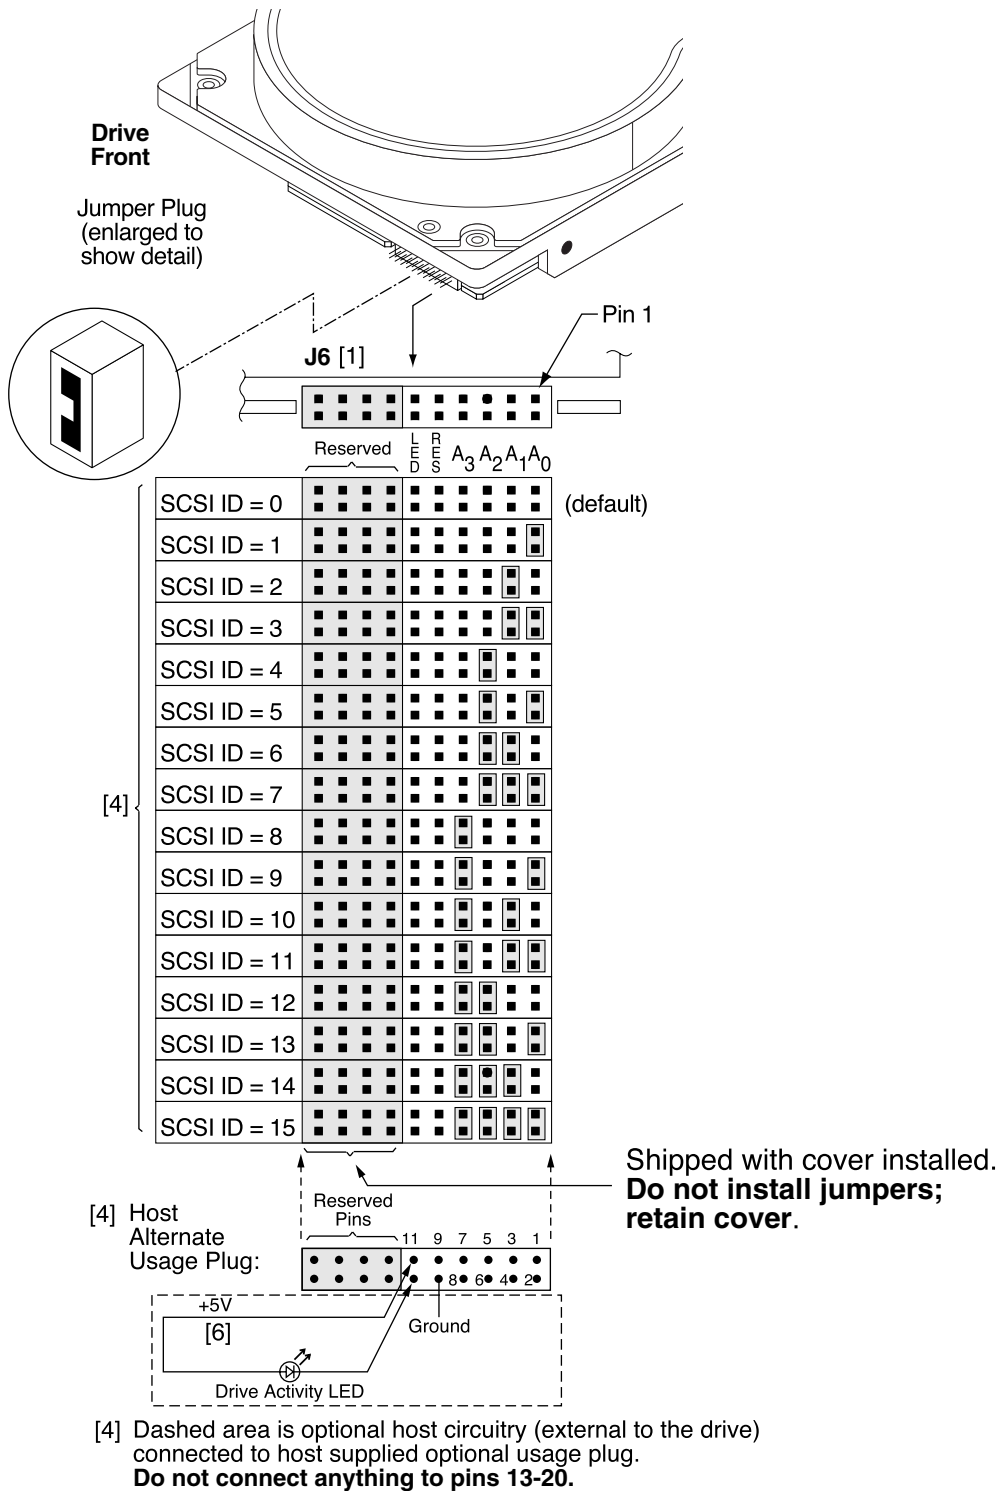
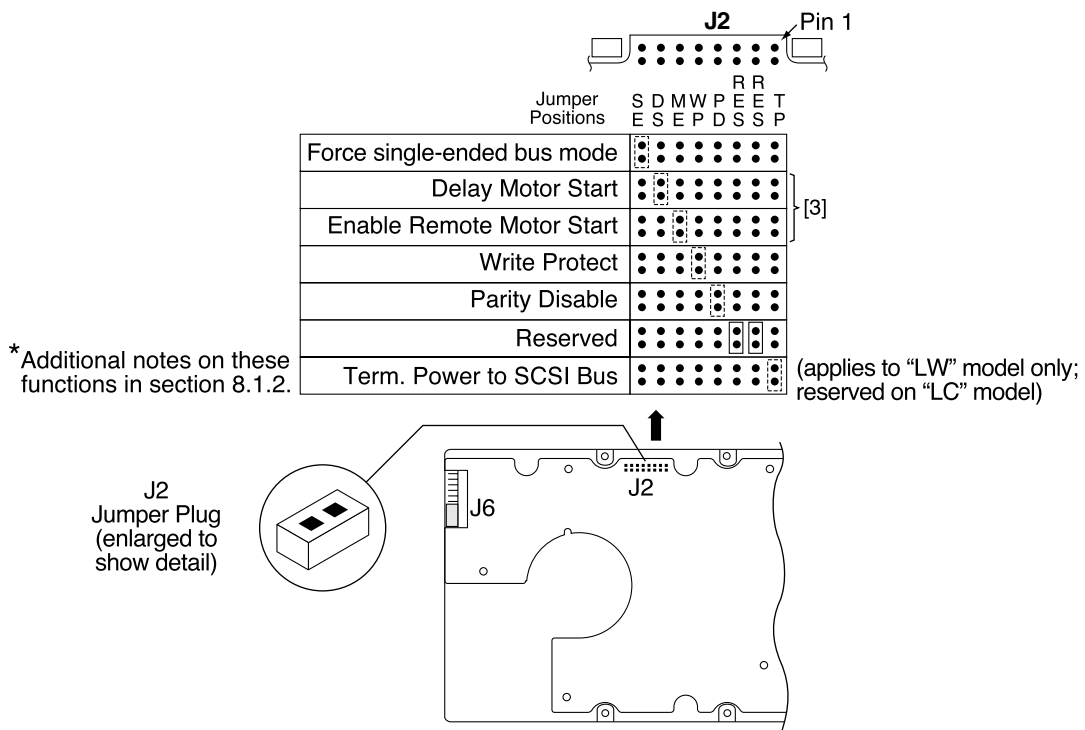

Figure 15. J6 jumper header for LW and LC models
Figure 18. J2 option select header (for LW and LC models)
For option jumper locations and definitions refer to Figures 15, 17, and 18. Drive default mode parameters are not normally needed for installation. Refer to Section 9.3.2 for default mode parameters if they are needed.
Figures 15 and 17 show views of the drive ID select jumper connectors. Figure 18 shows the option select jumper connector for all models. Figure 15 shows the drive's J5-Auxiliary jumper connector. Both J5-Auxiliary and J6 have pins for selecting drive ID and for connecting the remote LED cable. Only one or the other should be used, although using both at the same time would not damage the drive. The notes following the figures describe the functions of the various jumper positions on the connectors J2, J5-Auxiliary and J6. Suggested part number for the jumpers used on J2 is Molex 52747-0211 (Seagate part number 77679052). A bag with the two jumper plug types is shipped with the standard OEM drives.
### 8.1.1 Notes for Figures 15, 17, 18, 19, and 19
1. See Figure 18 for pins used for Termpower.